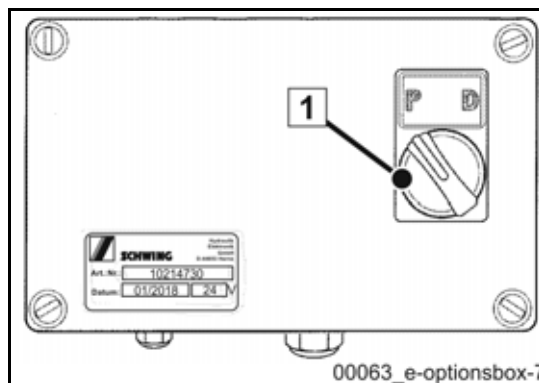

Fig. 290 Switching on distribution manual transmission gear (VSG)
- Wait for approx. 5 seconds before flipping the switch from "P" (pump) to "D" (drive) **(Fig. 290)**.